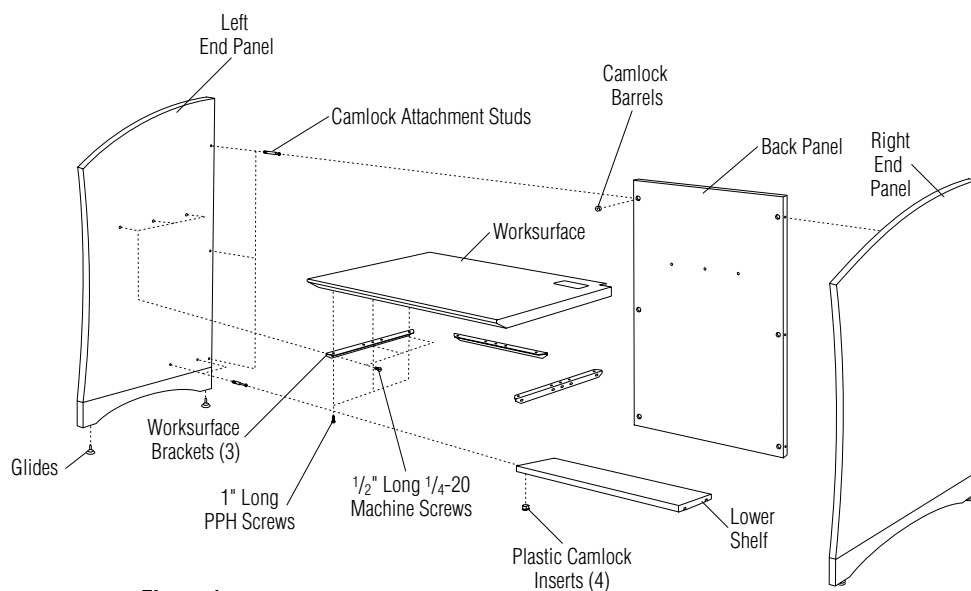

Figure 1
3. Insert three camlock attachment studs in end panel and tighten (Figure 1).
7. Install three worksurface brackets (one each on the end panel, adder panel and back panel). Fasten with 1/2" machine screws (3 screws per bracket) (Figure 1).
9. For lower shelf – Insert two camlock studs in each end and/or adder panel. Insert four plastic camlock inserts into each lower shelf. Set shelf onto lower shelf camlock studs. Tighten (Figure 1).